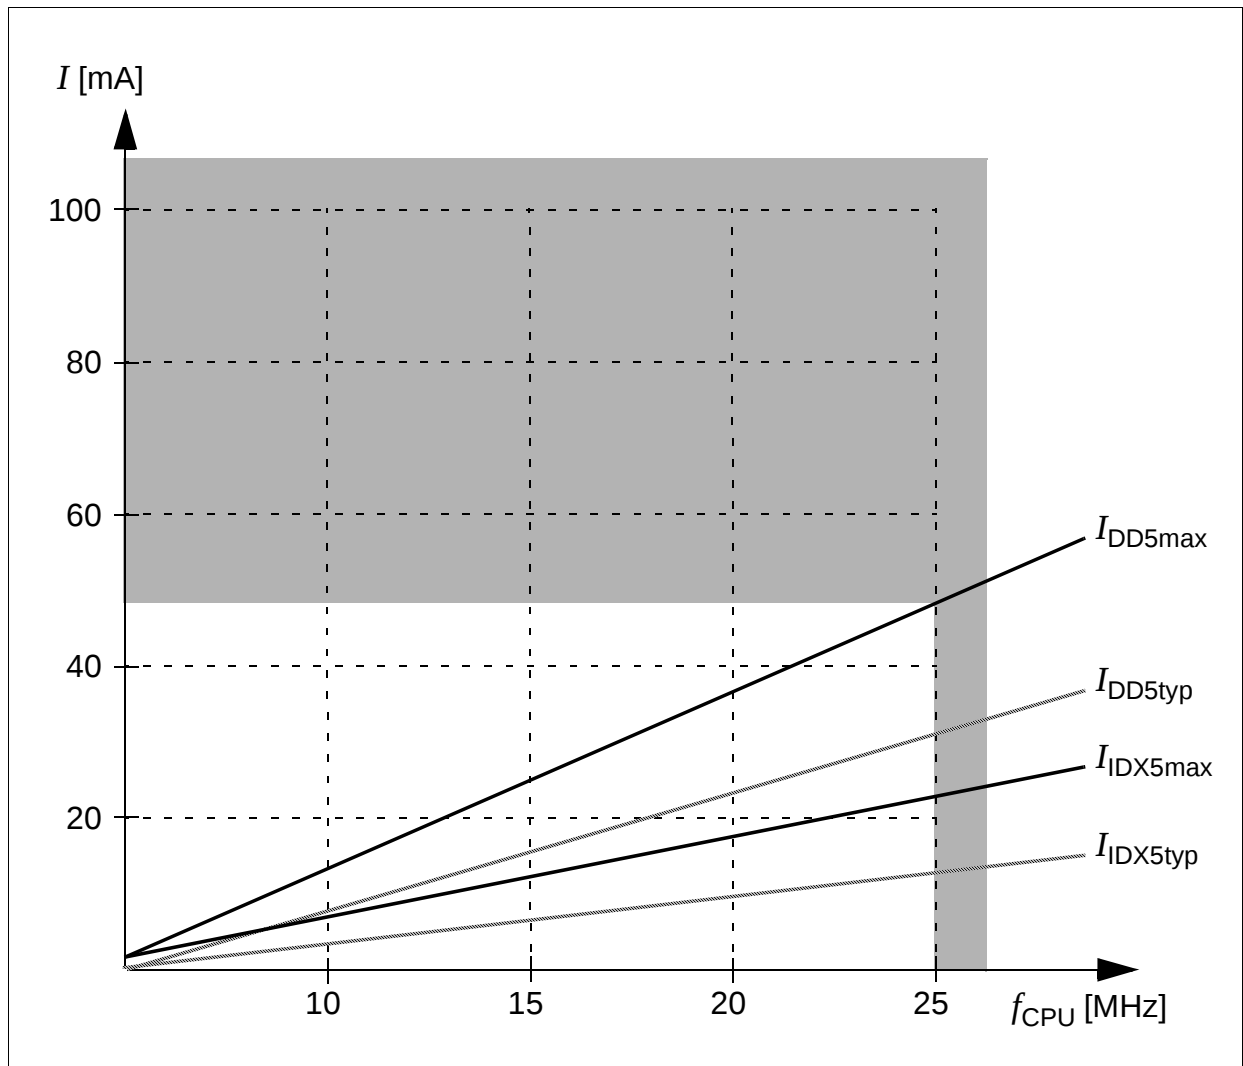

Figure 9 Supply/Idle Current as a Function of Operating Frequency
- ¹⁾ The supply current is a function of the operating frequency. This dependency is illustrated in Figure 9. These parameters are tested at V_{DDmax} and maximum CPU clock with all outputs disconnected and all inputs at V_{IL} or V_{IH} .